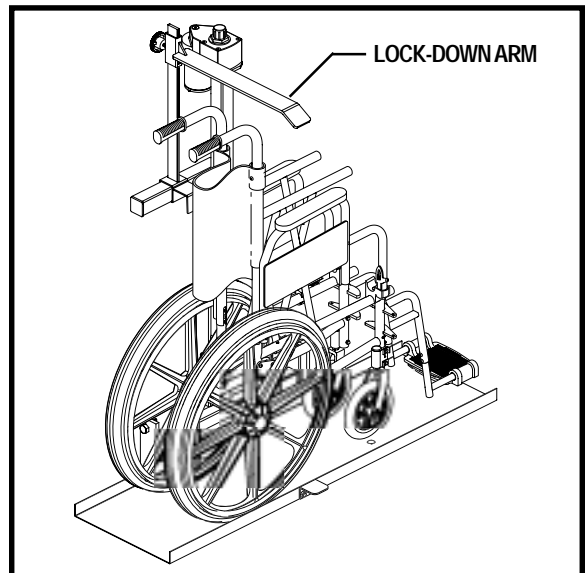

Figure 7. Wheelchair Positioning
4. Roll the wheelchair onto the center of the lift platform. See figure 7.
**NOTE:** Make sure that the lock-down arm is in the fully raised position before loading the wheelchair onto the lift platform. See figure 7.